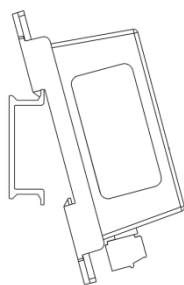

Figure 3: Catch mounting hook on DIN rail before rotating sensor into place
2. Catch mounting hook on DIN rail as shown in Figure 3.